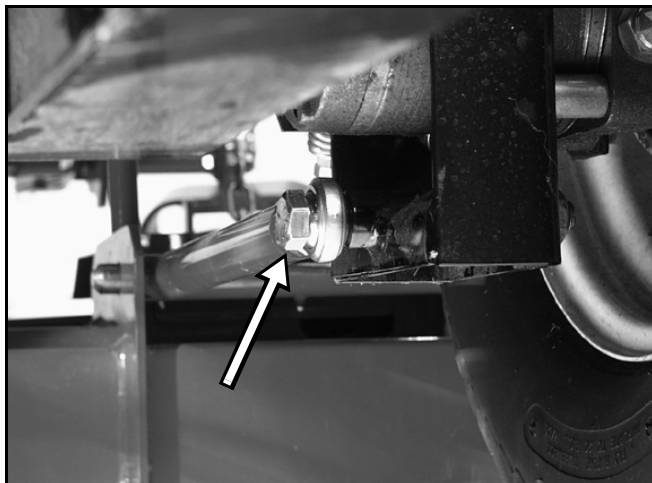

Figure 119
4. Remove the bolt from the ball joint securing the deck struts to the mower frame (Figure 119).